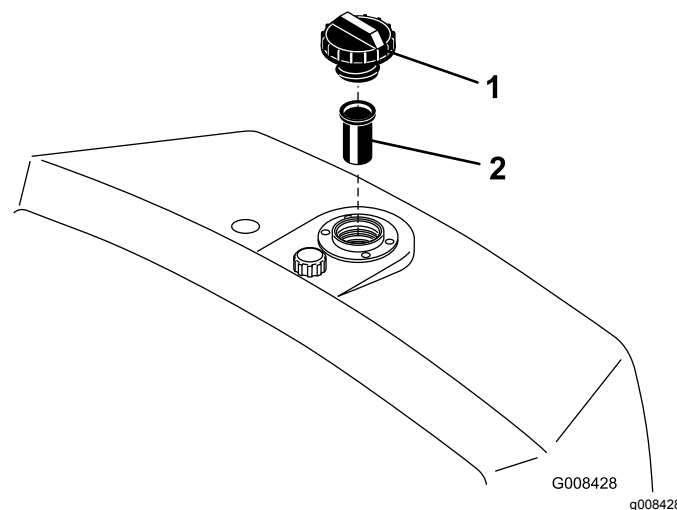

Figure 47
2. Remove the cap from the reservoir and check the fluid level. The fluid should be up to the bottom of the screen in the filler neck (Figure 47).